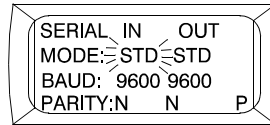

Figure 22. STD Display
- Press the up arrow key (figure 1, item 2) or down arrow key (figure 1, item 3) until STD is flashing for SERIAL IN MODE (figure 22).